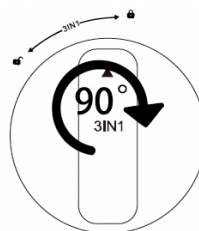

Figure 7
6. Gently press the filter element and rotate it 90° clockwise, ensure the triangle icon on top of filter element is pointed at lock icon (As Figure 7).